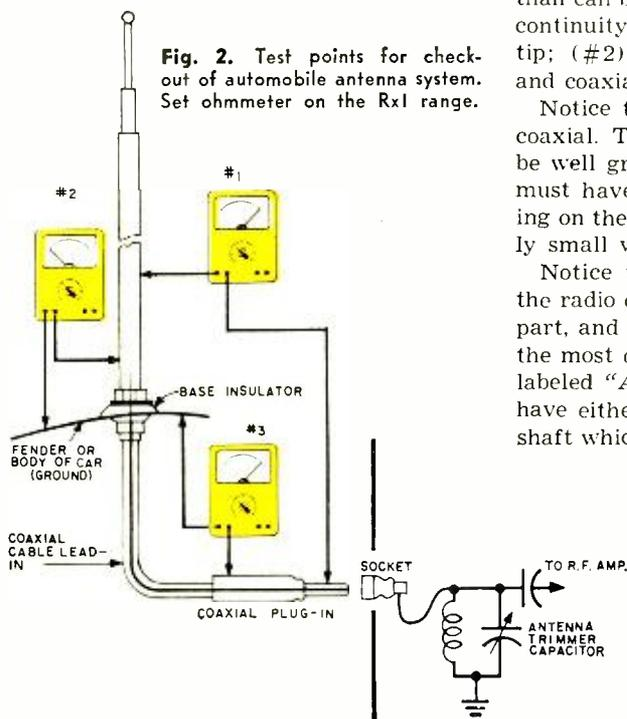

Fig. 2. Test points for check-out of automobile antenna system. Set ohmmeter on the Rx1 range.
Figure 2 illustrates three antenna checks than can be made with an ohmmeter: (#1) continuity between antenna mast and plug tip; (#2) continuity between car chassis and coaxial shield; (#3) open circuit.
Continuous Closed Loop. The heat control mechanism for an electroplating bath in Fig. 2 illustrates a closed-loop continuous servomechanism. Control potentiometer *R1* is set for a specific temperature, say 125°F. The bi-metal strip which turns thermostat potentiometer *R2* is arranged so that when the bath is at 125°F, the thermostat wiper arm will be at the
Fig. 2. Heated electroplating bath illustrates a closed-loop continuous servo system. This type of system controls heat much more accurately than the on-off thermostat type.
Fig. 3. The behavior of a discontinuous servomechanism, such as an off-on thermostat is shown in (A) while (B) shows the behavior of a continuous servo system, such as the one in Fig. 2. The temperature variation, or differential, is much less than in a discontinuous system.